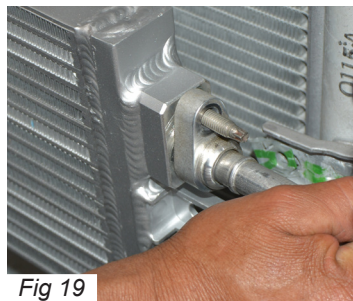

Fig 19
Step 14 Insert transmission cooler fluid lines into the Transmission Cooler fittings. Check to ensure they are fully inserted. Fig 19